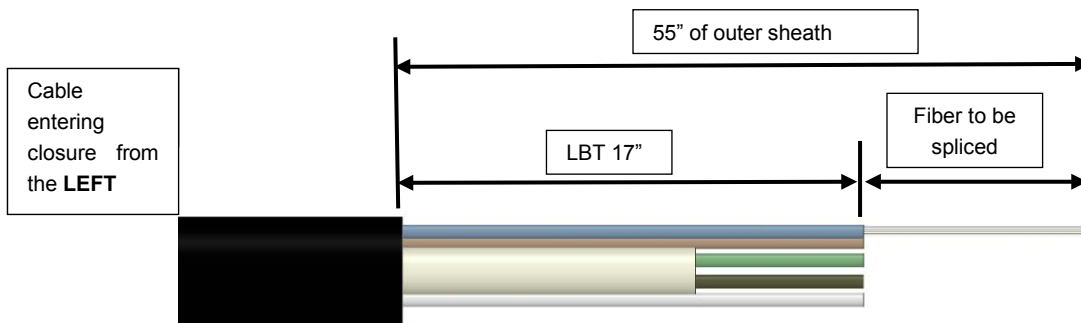

Figure 7
5.1.9 If cable enters closure from the left, mark buffer tube **17"** from sheath opening, ring cut and remove tubing. See Figure 7.